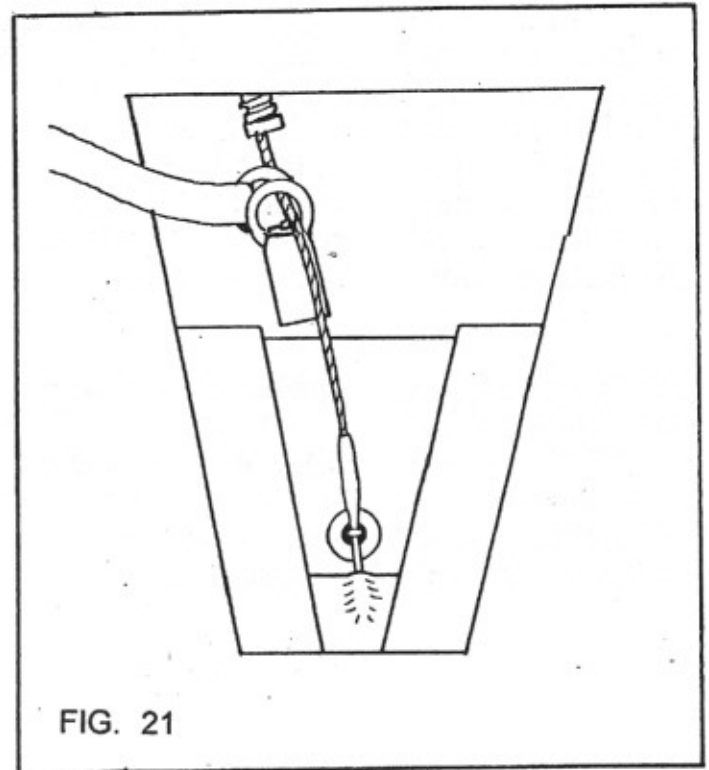

FIG. 21
12) Thread the pullup cord thru the grommet in the reserve top flap, remove the temporary pin, then pull the closing loop up thru the grommet and secure it with the actual ripcord. Insert the end of the ripcord pin into its protective pocket as shown in FIG. 21. Now check to see that there is a minimum of 2" or a maximum of 4" of extra ripcord cable at the handle. (This helps prevent an accidental activation of the reserve if the wearer bends forward, or if a hard opening stretches the harness.)